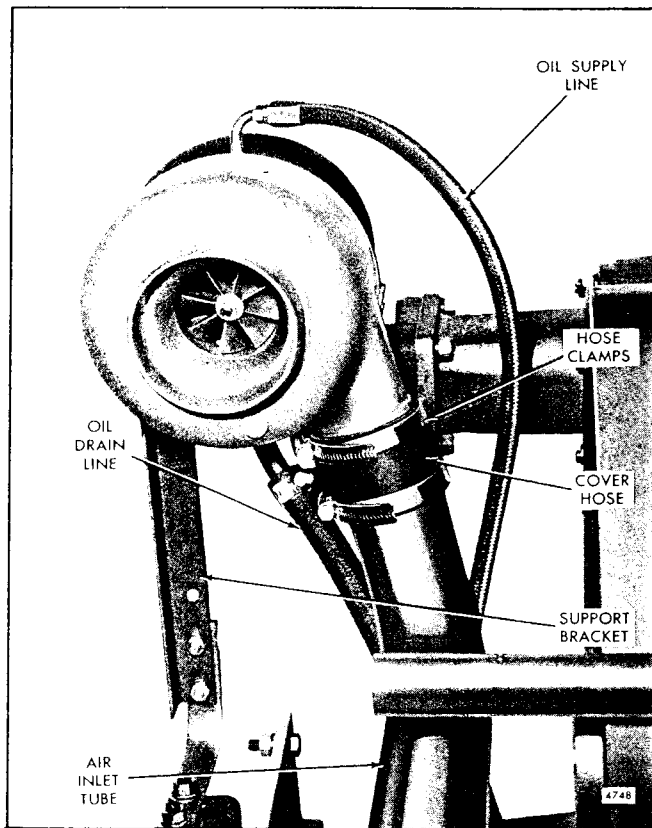

Fig. 4 - Turbocharger Support Bracket, Oil Lines and Air Inlet Tube
5. Thread eyebolts in two diagonally opposite tapped holes in the top of the blower housing. Then attach a rope sling and a chain hoist to the eyebolts as shown in Fig. 4.
1. Refer to Fig. 4 and remove the turbocharger support bracket.